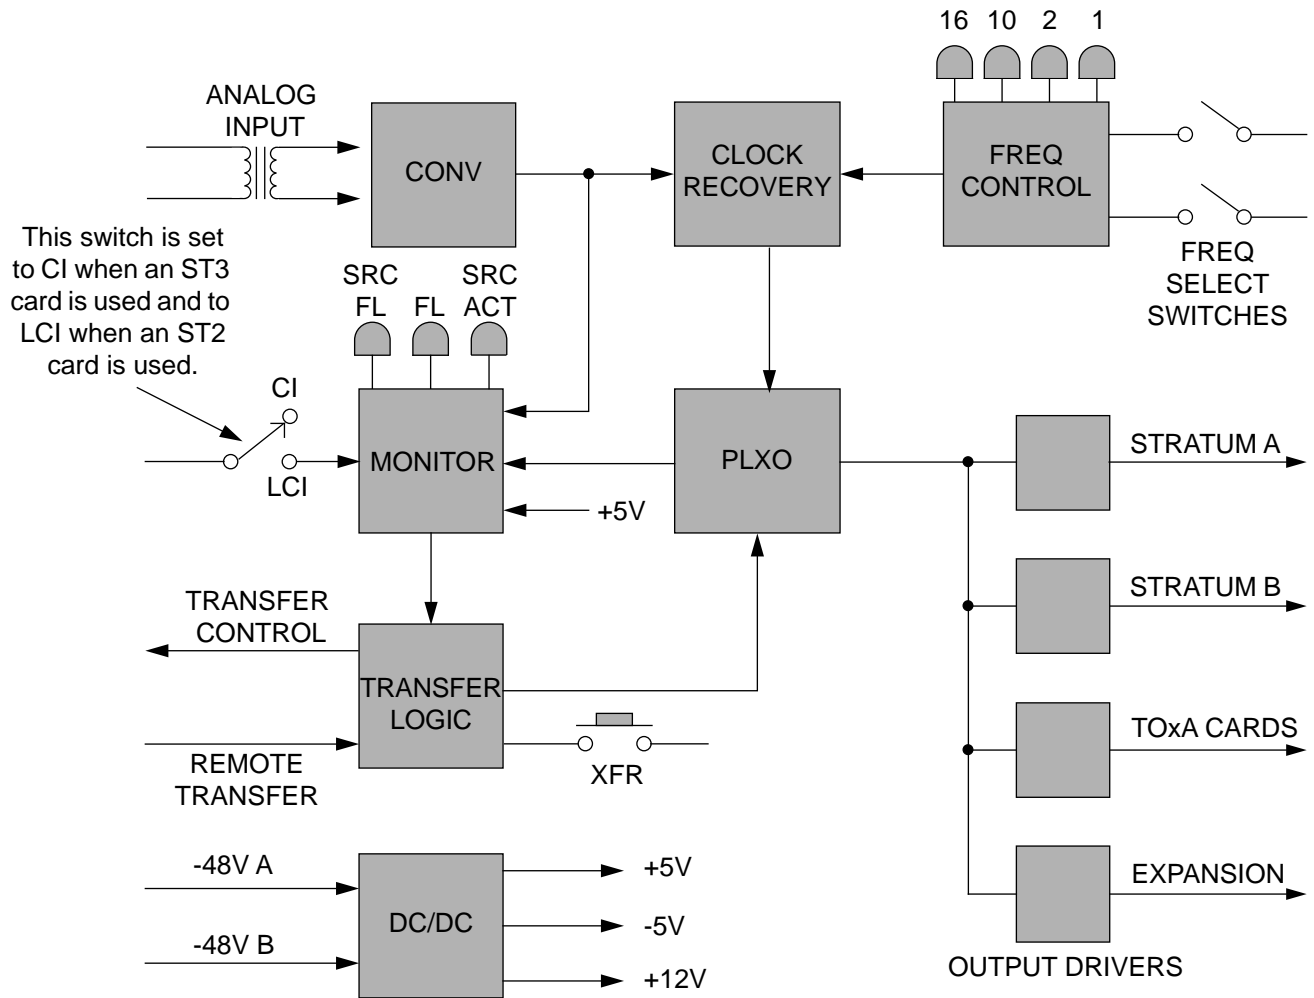

Figure 10. ACI Card Block Diagram
4.16 The Analog Clock Input (ACI) card performs the same functions as the CI card, except its input reference signal is analog instead of digital. The ACI card (Figure 10) can accept inputs of 1, 2, 10, or 16 MHz, selected by the front panel frequency-select switches. The appropriate front panel lamp (1, 2, 10, or 16 MHz) lights to indicate the input frequency.